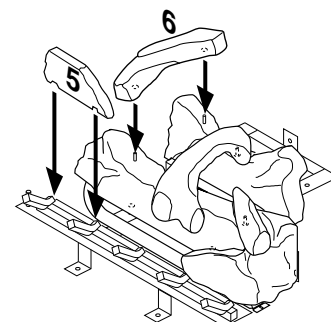

Figure 22 - Installing Logs #5 and #6, Models CD32M/CD36M-A Series
5. Place log #5 (small front log) onto the front left part of grate making sure notches fit over prongs of grate (see Figure 22).
6. Place log #6 onto two pins on left side of back and front logs (see Figure 22).